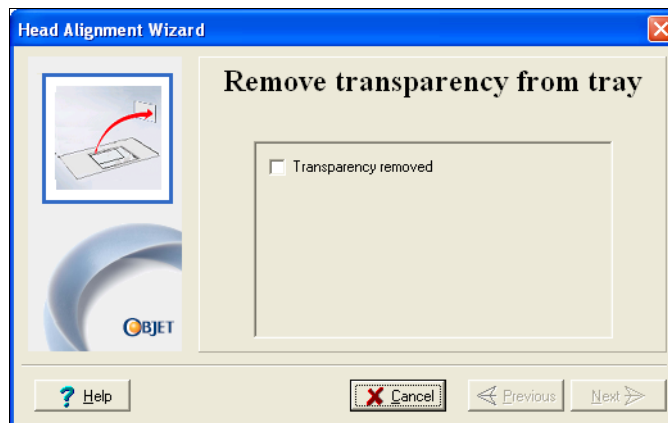

Figure 6-41: Head Alignment Wizard—steps 8–10
10. In the wizard screen shown in figure 6-41, select the *Transparency removed* check box, and click Next.